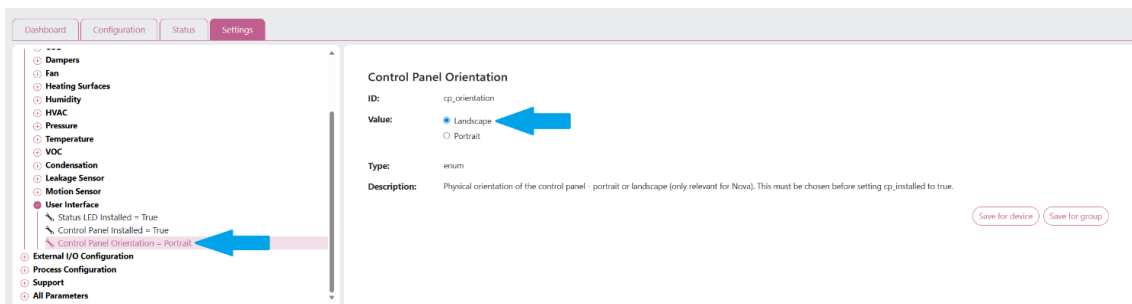

Figure 44: Control Panel Orientation sub-menu
2. Click on the “Control Panel Orientation” sub-menu, see Figure 44 below.